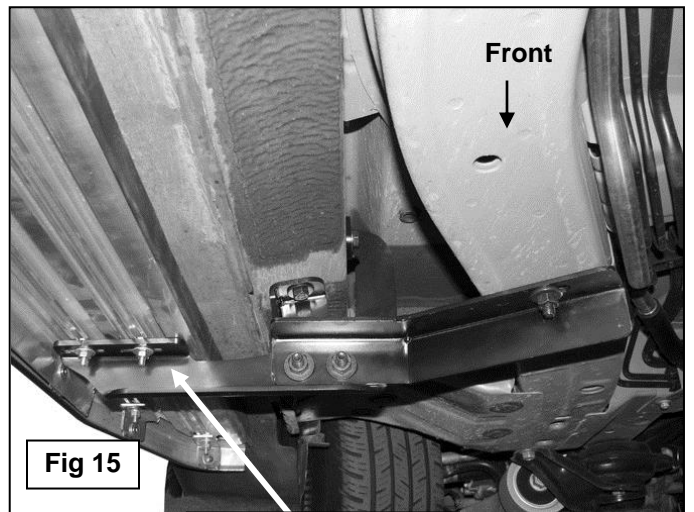

Fig 15
11. Carefully position the Driver/Left Running Board onto the (3) Mounting Brackets. Slide the T-Bolts into position and through the slots in the Brackets. Attach the Board to the Brackets with (6) 6mm Flat Washers, (6) 6mm Lock washers and (6) 6mm Hex Nuts, **(Figure 15)**. Do not tighten hardware at this time.